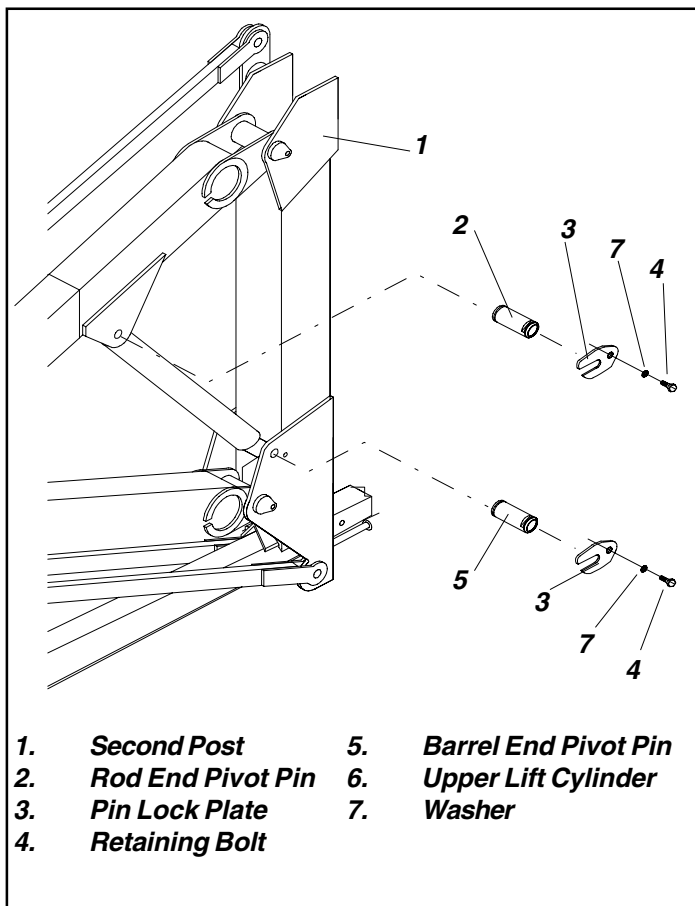

Figure 4-15: Upper Lift Cylinder
4.13 Upper Lift Cylinder (Figure 4-15)